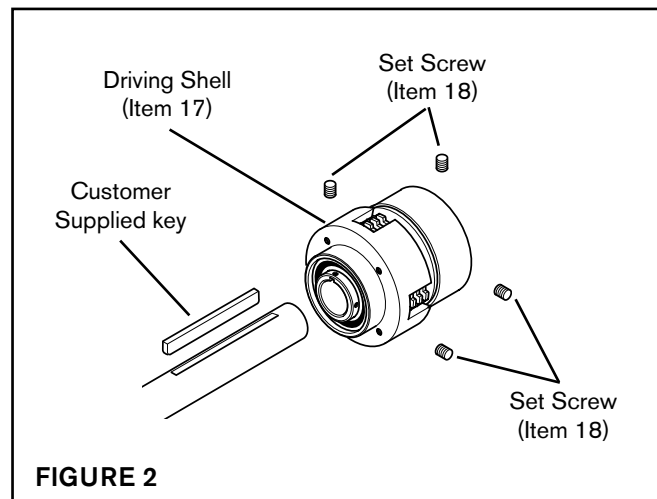

FIGURE 2
1. Secure a sheave or flywheel to the Driving Shell (Item 17) of the Multiple Disc Clutch (See Figure 2).
2. Insert the customer supplied key into the machine shaft (See Figure 2).
3. Slide the Multiple Disc Clutch onto the machine shaft (See Figure 2).
4. Install and tighten the four Set Screws (Item 18) securing the Multiple Disc Clutch to the machine shaft (See Figure 2).